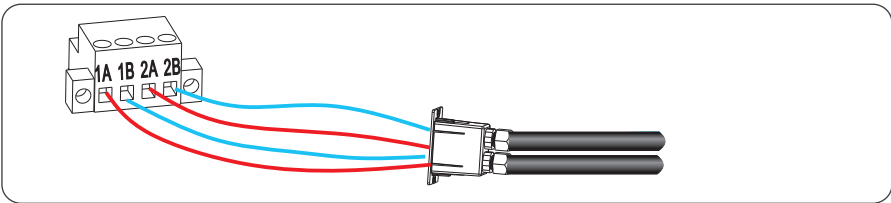

Figure 5.20 RS485 Terminal block connection
**Step 4** Connect RS485 differential positive and negative signal of data logger to terminal 1A and 1B of inverter, and connect terminal 2A and 2B of the inverter to terminal 1A and 1B of another inverter. Figure 5.20.